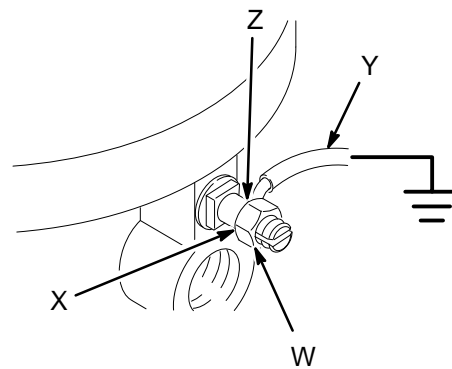

Fig. 1
1. *Pump:* use a 12 gauge (1.5 mm²) minimum ground wire and clamp. See Fig. 1. Loosen the grounding lug locknut (W) and washer (X). Insert one end of the ground wire (Y) into the slot in lug (Z) and tighten the locknut securely. Connect the other end of the wire to a true earth ground. Order Part No. 238909.